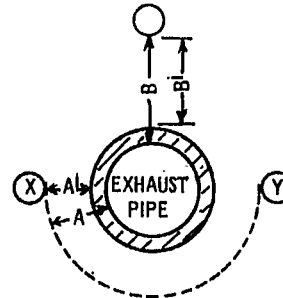

FIG. 1 CLEARANCES FROM EXHAUST TO CONDUIT (PAR. 3.4, 3.5)
3.41 Twelve (12) inches clearance is required when conduit parallels the bare exhaust line or silencer at the side or below. Refer to Figure 1. Conduit may be anywhere from Position X-Y and clearance A must be 12 inches. Twelve inches clearance is also required when the conduit crosses at right angles to the exhaust line or silencer, either below or at the side.
3.42 Thirty-six (36) inches clearance is required when conduit runs above the bare exhaust line or silencer either parallel to or crossing at right angles. This is clearance B in Figure 1.
3.51 One (1) inch clearance is required when conduit parallels insulated exhaust line or silencer at the side or below. This is A1 in Figure 1 for conduit anywhere from Position X-Y. The one inch clearance is also required when the conduit crosses at right angles to the insulated exhaust line or silencer either below or at the side.
3.52 Twelve (12) inches clearance is required when conduit runs parallel to an insulated exhaust pipe or silencer above the center line (X-Y). This is B1 in Figure 1.